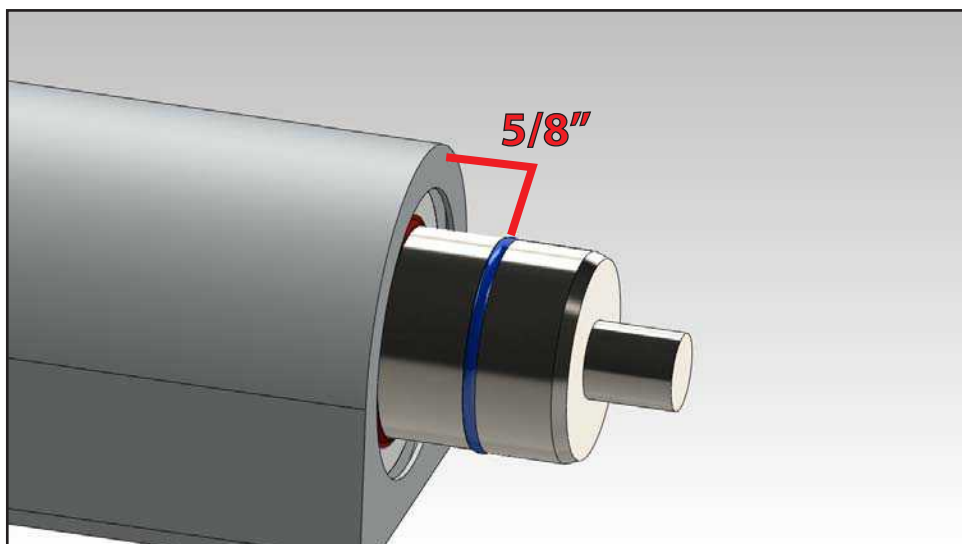

FIG. 4C
- This measurement should be approximately 5/8" to ensure the carriage has been re-engaged correctly. (FIG. 4C)